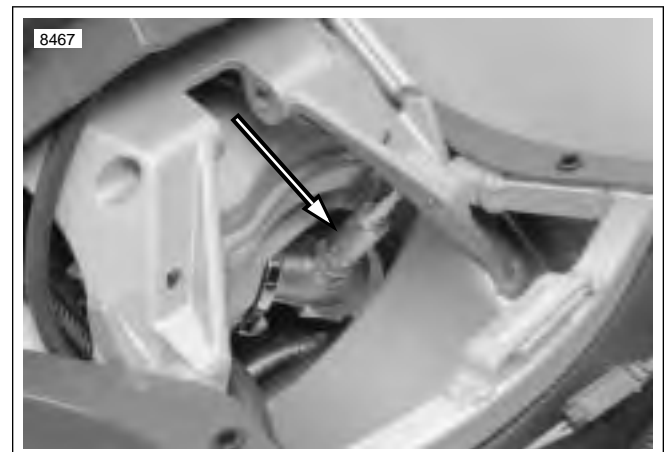

Figure 4-36. Oxygen Sensor (shock absorber removed)
- **Loose O₂ sensor.** See Figure 4-36. If the O₂ sensor is loose engine performance may be affected. This could also show up as a slow changing O₂ sensor voltage.